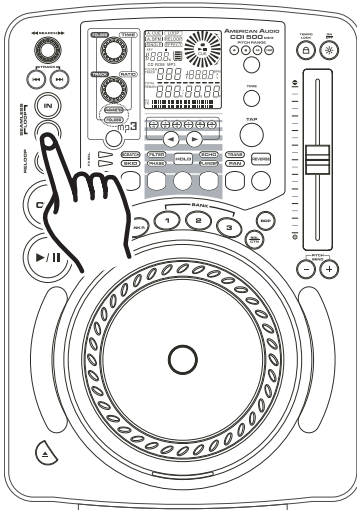

Figure 25
- 4) The yellow **MEMORY BUTTON (16)** LED will turn off, when your sample is locked into memory.
- 5) At this point your sample has been stored into memory. The original loop you used to create the sample will remain playing until the **OUT BUTTON (24)** is pressed (Figure 25).
- 6) Your sample can now be recalled at any time even when the unit is in **PAUSE MODE**. To recall the sample be sure the sample function is on, by pressing the **SAMPLE BUTTON (18)**. The yellow sample button LED will turn on. To play your sample in a continuos loop leave the sample function on. To play your sample just once, turn the sample function off immediately after initiating your sample. With the sample function on the sample will continue to play until the sample function is turned off.